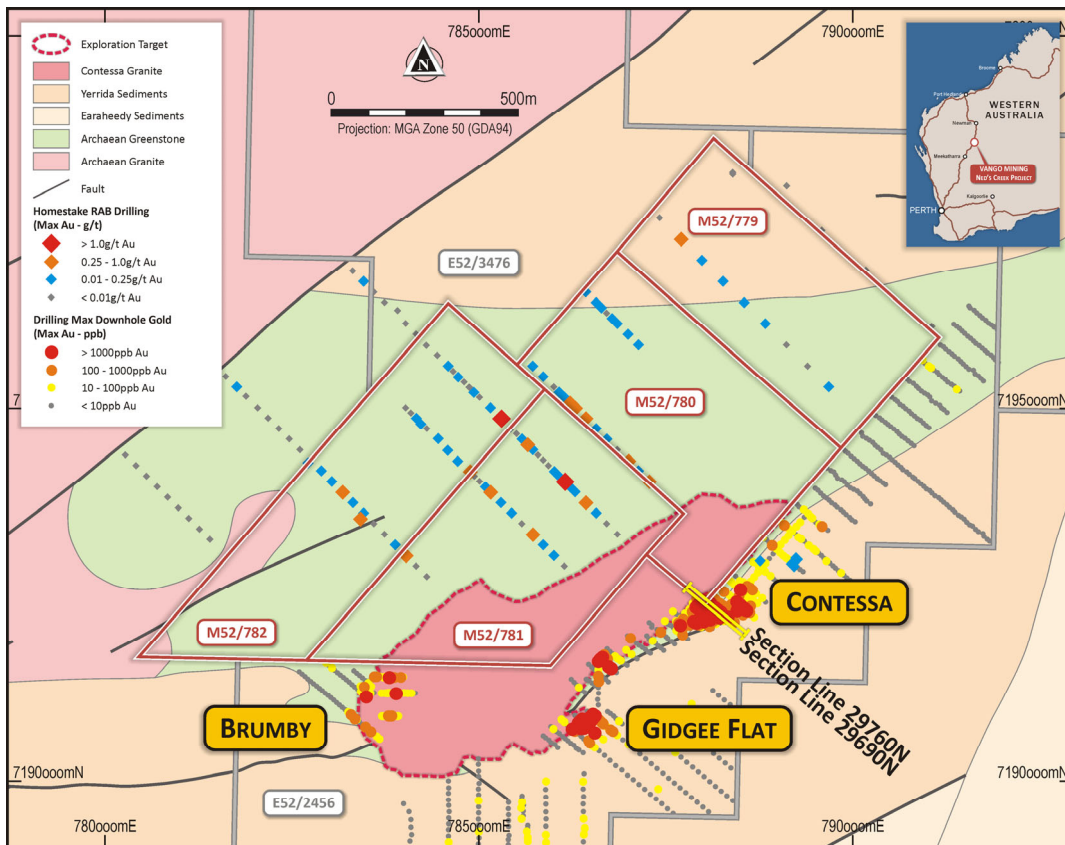
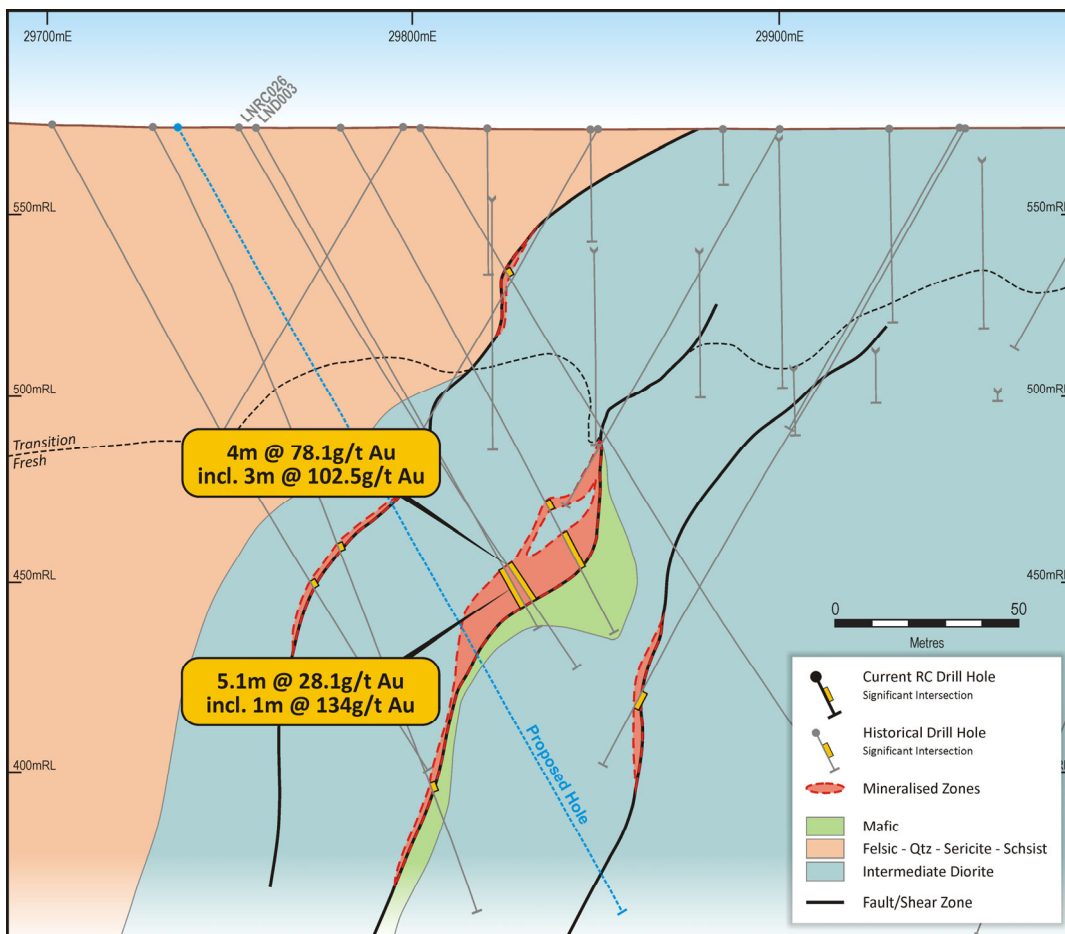

Figure 2: Ned's Creek tenements with drilling showing key cross section locations at Contessa Prospect
Figure 3: Ned's creek, Contessa Prospect, Cross section 29,760mN
- Exploration will also advance other high-grade gold discoveries at Ned's Creek including Gidgee Flat and Brumby (see Figure 2)
Vango has exercised the Option based on the high-level of prospectivity and resource potential of the Ned's Creek tenements, and specifically the **Contessa** Prospect. Previous drilling of Contessa by Lodestar (LSR release 12 June 2018) delivered multiple high-grade gold results within an approximately 400m strike length zone on the southeast margin of an intrusive Syenite (a.k.a Contessa Granite) (see Figure 2). This includes very high-grade intersections on section 29,760mN (see cross section Figure 3):
Other key high-grade gold prospects around the margin of the highly prospective Syenite unit will also be reviewed, including **Gidgee Flat** and **Brumby** (see Figure 2). Syenites are associated with major gold deposits in other parts of the Yilgarn Craton, including the world-class Wallaby gold deposit in the Laverton District.